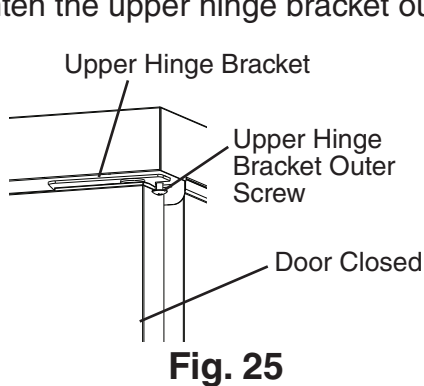
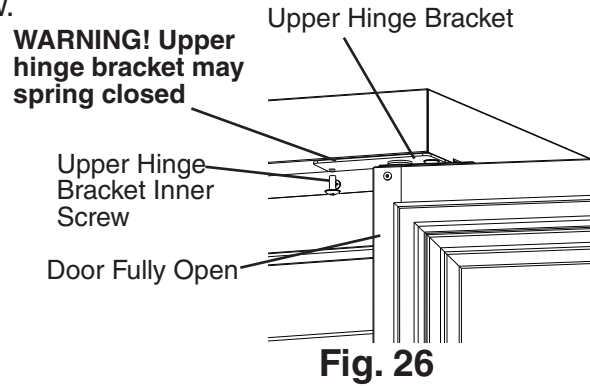

Fig. 25
Fig. 26
- 10) With the door closed, loosen, but do not remove, the upper hinge bracket outer screw. See Fig. 25. Next, open the door to the fully open position and remove the upper hinge bracket inner screw. See Fig. 26.